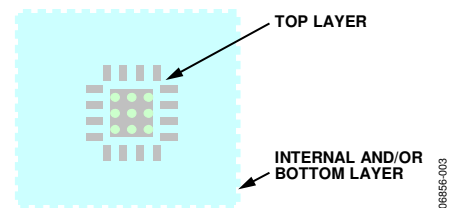

Figure 3. Heat Sink Layout
- Place nine vias onto the thermal pad of the amplifier. The outer diameter of the vias should be 0.5 mm, and the inner diameter should be 0.33 mm. If internal layers are available in the PCB, allocate an area as large as possible to the ground planes and connect these vias to the ground planes (see Figure 3). If internal layers are available, allocate a specific area as a heat sink; make sure to connect the vias conducting heat to the internal layers.